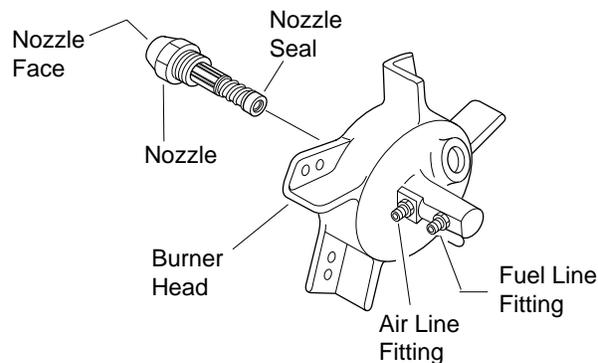

Figure 23 - Removing Nozzle
8. Carefully remove nozzle from burner head using 5/8" socket wrench (see Figure 23).